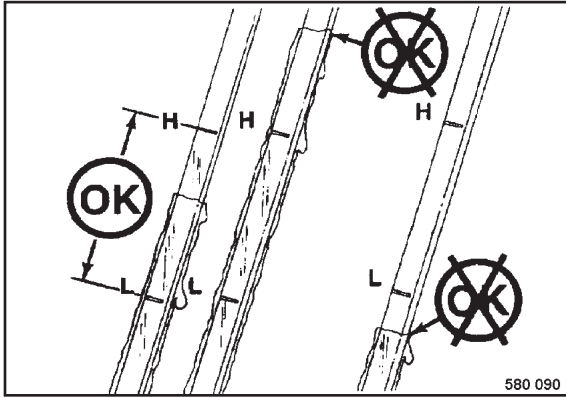

Fig. 94
- Pull the dipstick (Fig. 94) out, wipe it off with a lint-free, clean cloth and reinsert it until it bottoms.